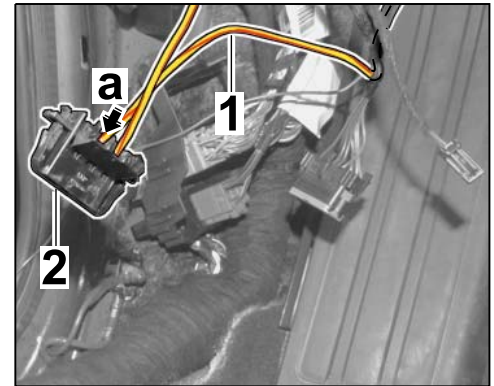

Figure 45
- 4.13.1 Insert RD/YE line ⇒ *Figure 45-1* into the plug socket of the disconnection point ⇒ *Figure 45-2* ⇒ *Figure 45-a*.